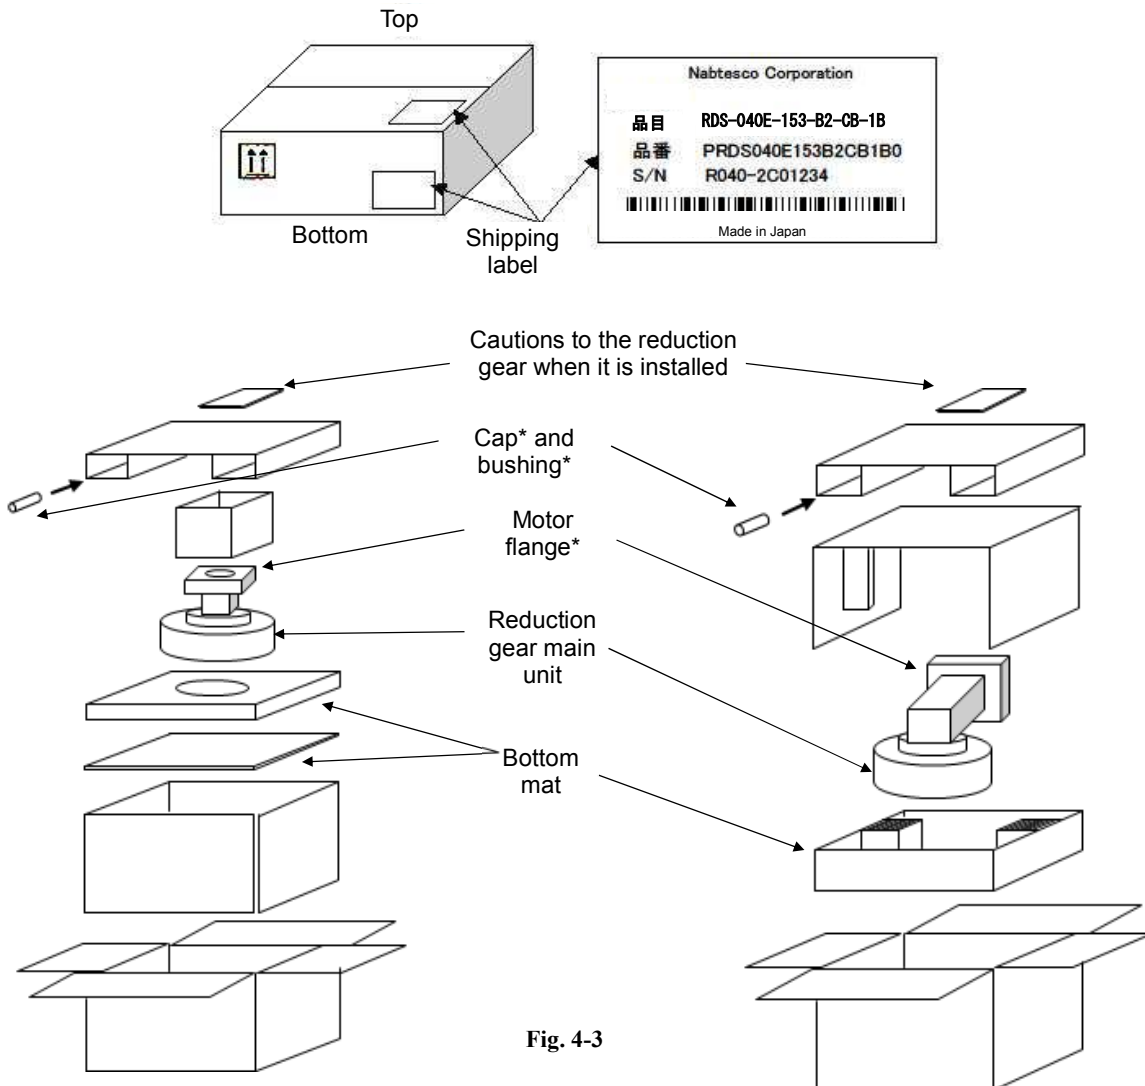

Fig. 4-3
- If it is left upside down, it could cause damage to the reduction gear. (Refer to Fig. 4-3 for the direction.)